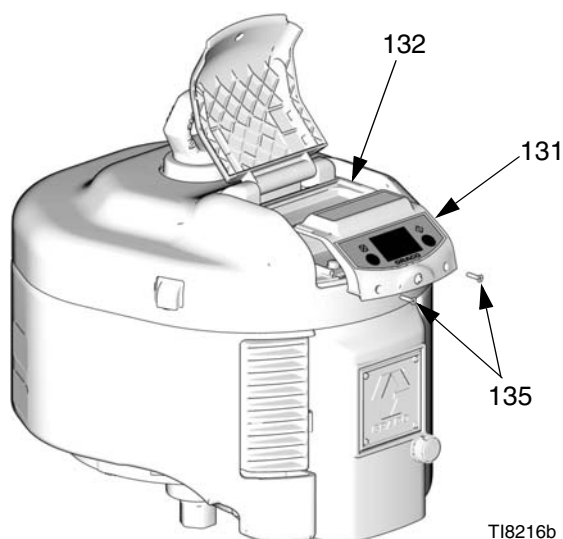

FIG. 4. Remove DataTrak Module
1. Remove two screws (135). Carefully slide the DataTrak module (131) out of the housing (132). See FIG. 4.